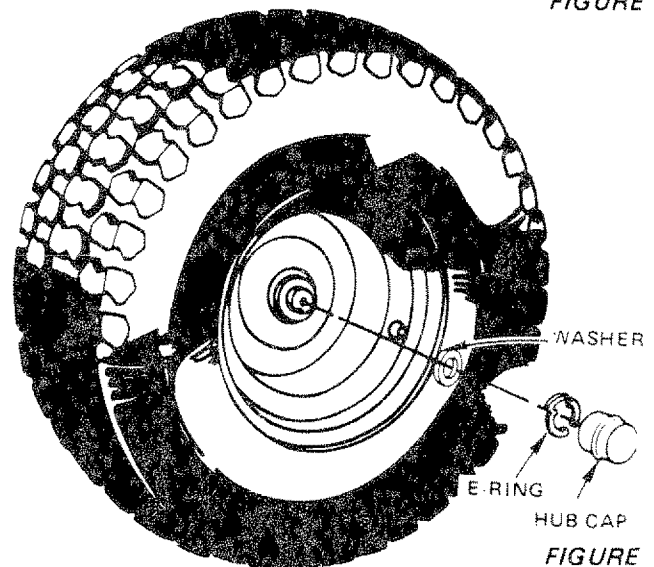

FIGURE 45
- Removing rear wheel for tire repair (Fig. 45):